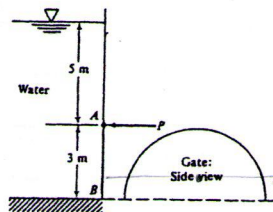

Fig. P2.65
2.65 Gate AB in Fig. P2.65 is semi-circular, hinged at B, and held by a horizontal force P at point A. Determine the required force P for equilibrium.